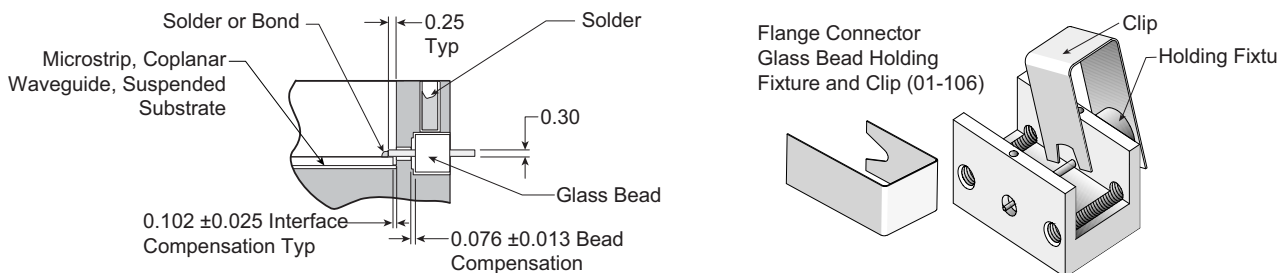

Figure 7-3. K103M-R Glass Bead Assembly
1. Install the microstrip into the housing (see Figure 7-3 for dimensional tolerances around the glass bead).
3. Flux the glass bead and insert it, long-end first, into the 01-103 Glass Bead Holding Fixture (Figure 7-3).
5. Secure the holding fixture in place by using the spring clip furnished with the fixture (Figure 7-3). Position the spring clip so as not to obstruct the solder access hole in the housing. Ensure that the glass bead is centered and that it is making good contact with the microstrip.